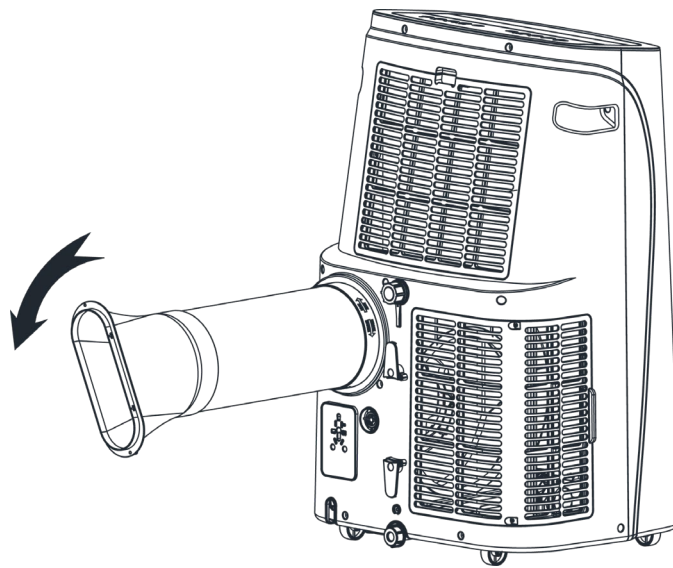

Figure 1
Install the heat pipe (as shown in Figure 1):
2. Insert the heat pipe assembly (the end of the exhaust joint) into the back panel vent slot (push to the left) and complete the assembly (as shown in Figure 1).